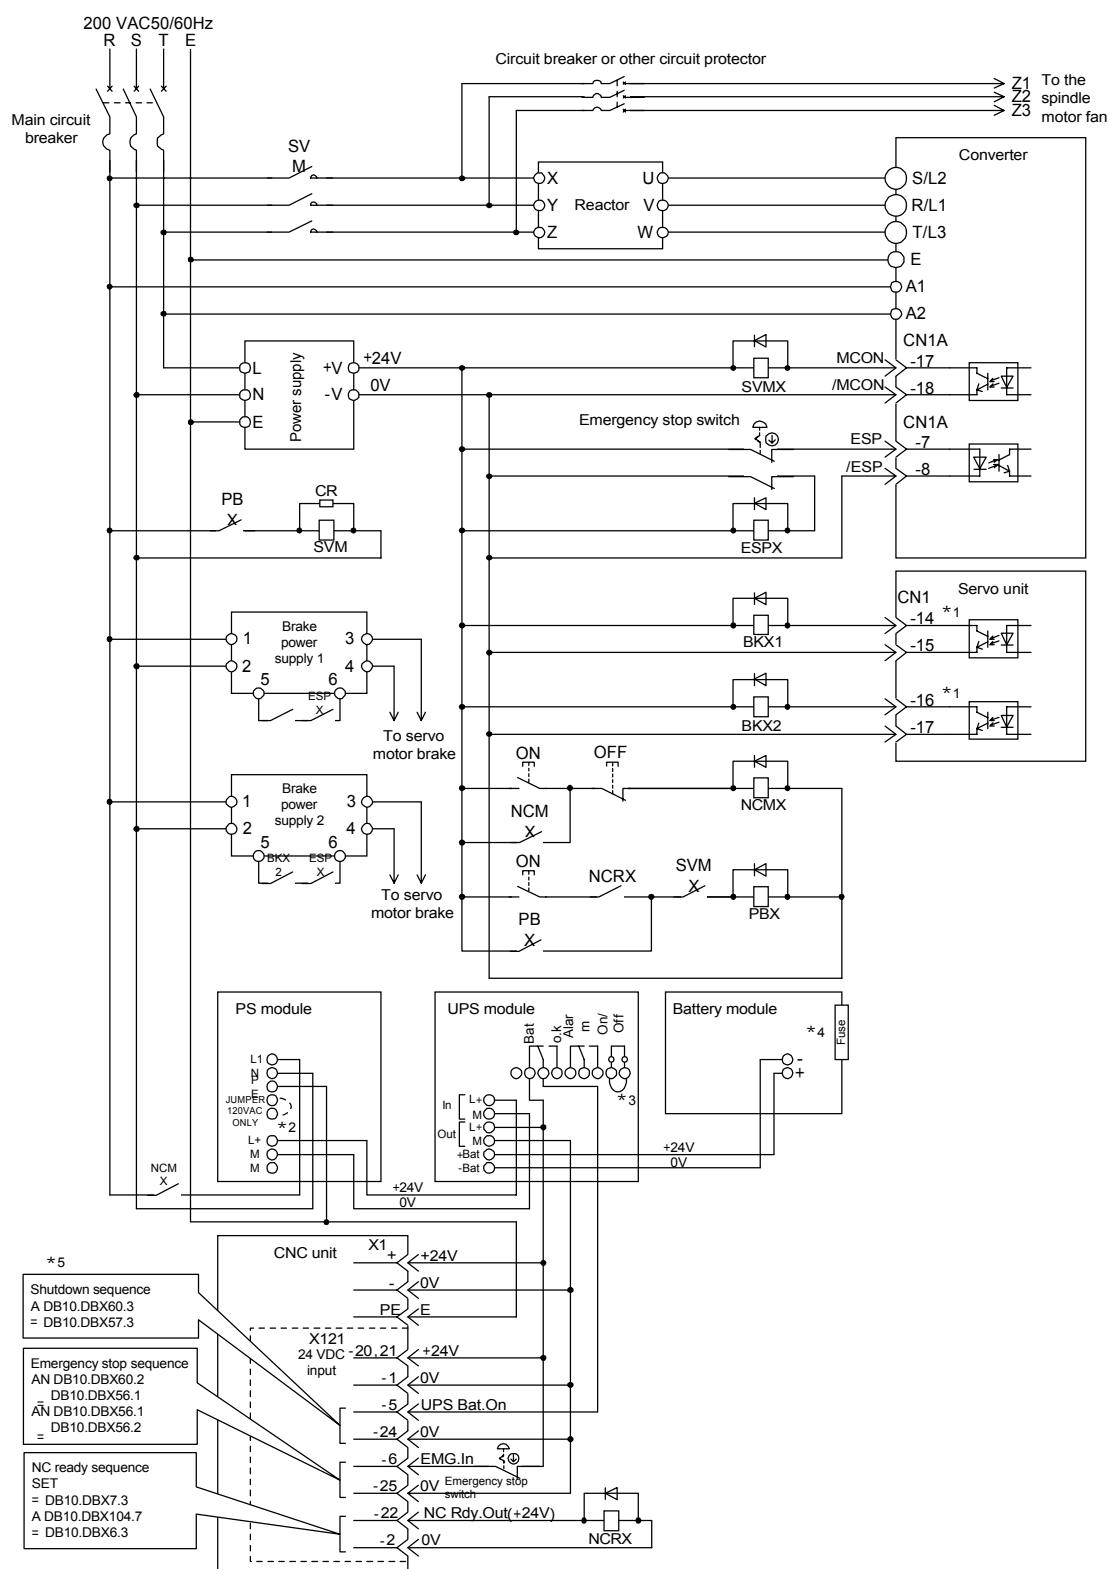

Fig. 4.1 Wiring for the SVMX and BKX output signals
- *1. The brake release output signal as shown in Fig. 4.1 is for 2-axis servo units. For 1-axis servo units, use only pins 14 and 15. For 2-axis servo units, use pins 14 and 15 for the first axis, and pins 16 and 17 for the second axis.